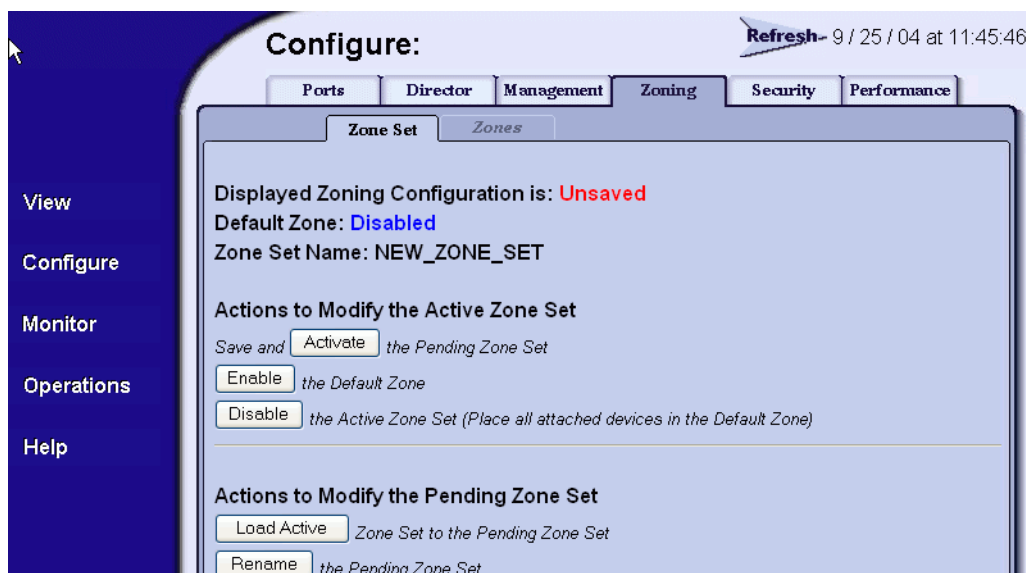

Figure 2-112 Configure Panel (Zoning Page with Zone Set Tab)
1. At the *Configure* panel and *Zoning* page, click the *Zone Set* tab. The *Zoning* page displays with the *Zone Set* tab selected (Figure 2-112).